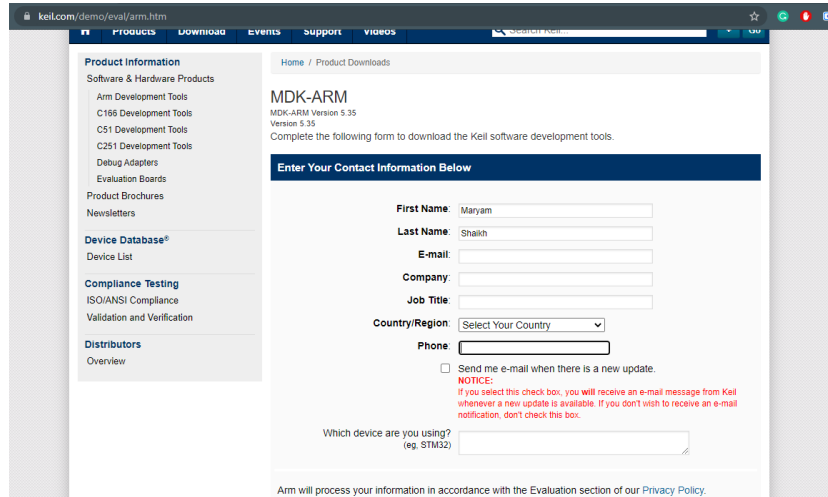

Figure 2
3. This will bring up a form as shown in Figure 2. Fill out the form and then click on the submit button, at the bottom of the page.